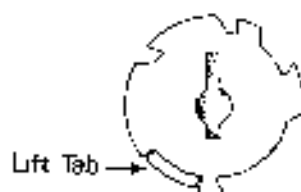

Fig. 5
2. Locate the lift tab on the outer edge of the cam. (See Fig 5).